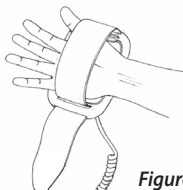

Figure 5
7. Place the coil on a stable surface with the softgood facing up. (Figure 5)